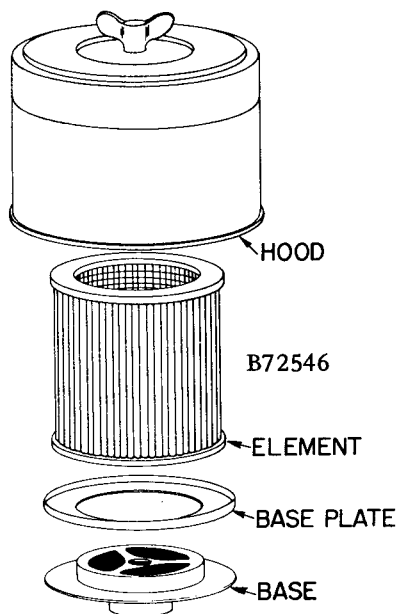

FIGURE 1-6. — DRY TYPE AIR FILTER
**AIR FILTER** (Figure 1-6) furnished as standard equipment is a washable element dry type filter. The air filter must receive proper maintenance if maximum service is to be obtained from the unit. Establishing adequate and timely filter service is **MOST IMPORTANT**. When the outside surface of the element appears to be evenly coated with dirt, it should be cleaned as follows: